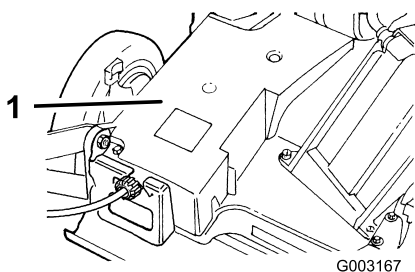

Figure 41
2. Remove the bolts that secure the belt cover (Figure 41) to the lawn mower housing.